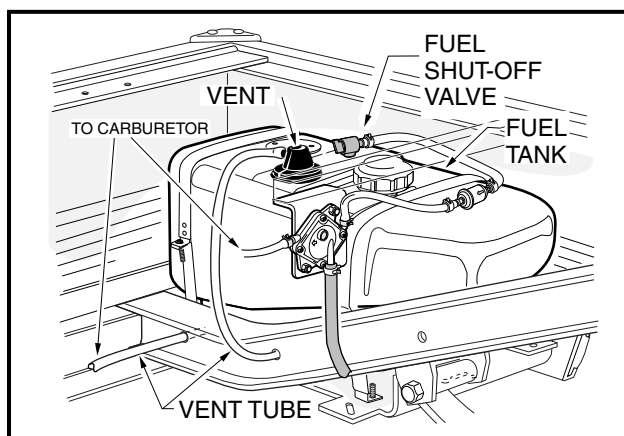
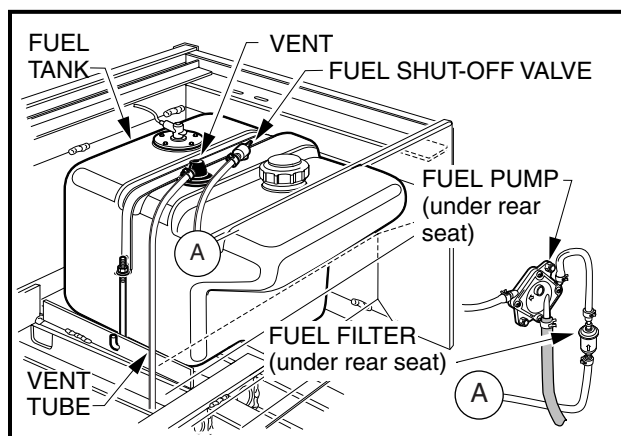

Figure 27 Fuel Tank – XRT 1200
Figure 28 Fuel Tank – XRT 1200SE
- If the vehicle has an all-weather enclosure installed, be sure the fuel tank is properly vented as shown (Figure 27, Page 35 or Figure 28, Page 35).